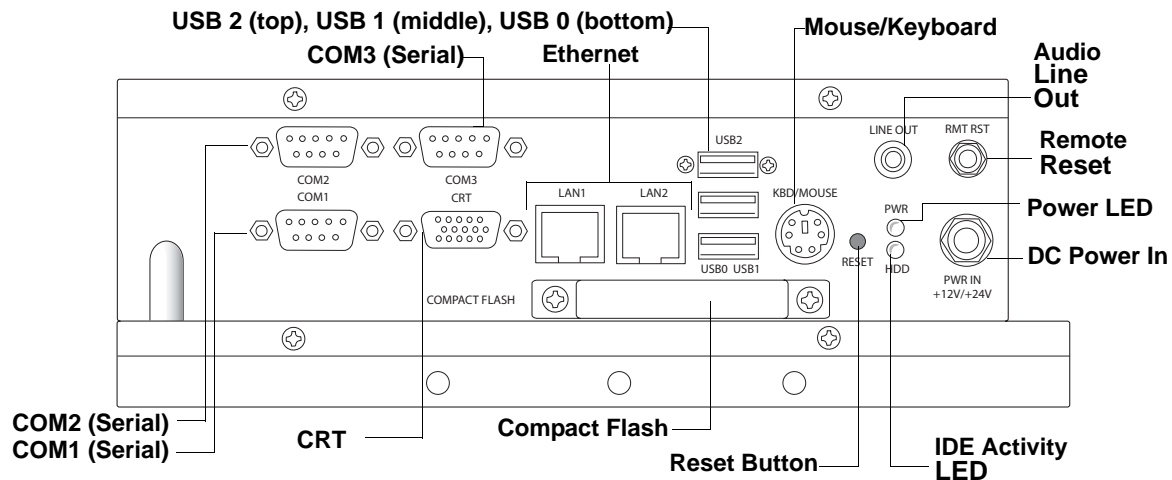

Figure 1-3. Flat View of ReadyPanel I/O Panel
7) Locate the I/O connectors on the front of the ReadyPanel.	Refer to Figure 1-3 for locations and descriptions of the connectors and controls before making connections or powering on the ReadyPanel.
Power LED	This green power-on indicator, shown in Figure 1-3 , resides on the ReadyBoard. The LED glows when the ReadyPanel power is turned on and dims when the power is turned off.
IDE Activity LED	This yellow activity indicator, shown in Figure 1-3 , resides on the ReadyBoard and flickers when IDE or compact flash card activity occurs in the ReadyPanel.
- Plug in the DC cable to the DC Power In jack of the ReadyPanel. See Figure 1-3.
1. Initiate a shut down sequence through the OS, or hold in the reset switch for 4-6 seconds to turn off power. See Figure 1-3 on page 6.